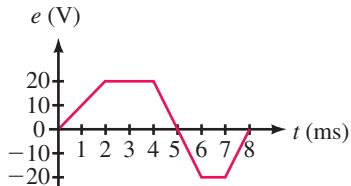
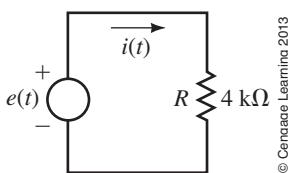

FIGURE 15-74
FIGURE 15-76
b. For Figure 15-74, determine instantaneous voltages at $t = 0, 1, 2, 3, 4, 5, 6, 7$, and 8 ms.
- The source of Figure 15-76 has the waveform of Figure 15-74. Determine the current at $t = 0, 1, 2, 3, 4, 5, 6, 7$, and 8 ms. Include signs.